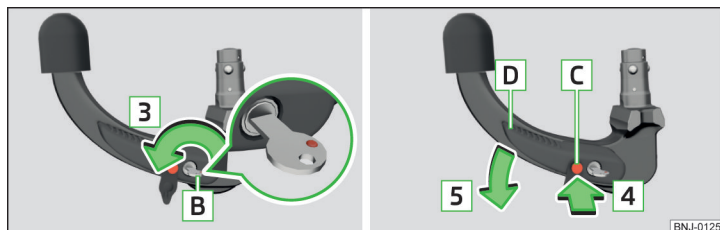

Fig. 131 Lock unlock / press release bolt and lever and push
- Turn the key **B** in the direction of arrow **3** so that the red marking points upwards » Fig. 131.